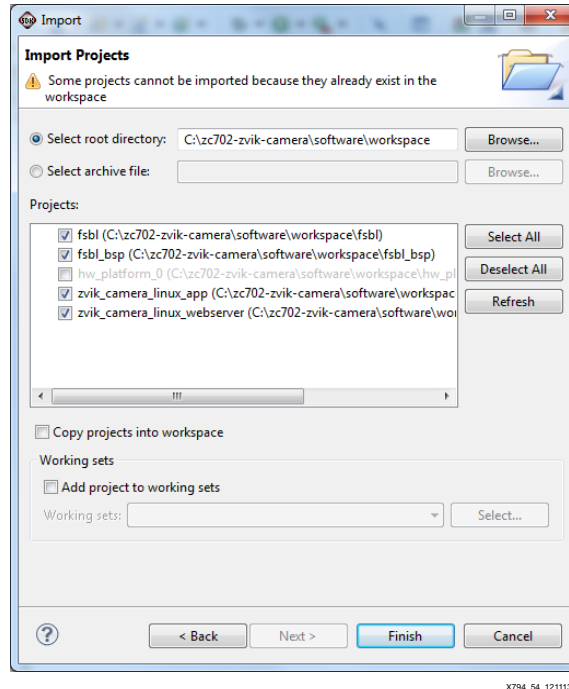

Figure 54: Importing Linux Applications
- After the root directory is specified, the import wizard shows a list of projects available to import, as shown in Figure 54. Make these selections:
Note: The projects in the import wizard might appear in a different order than that shown in Figure 54.